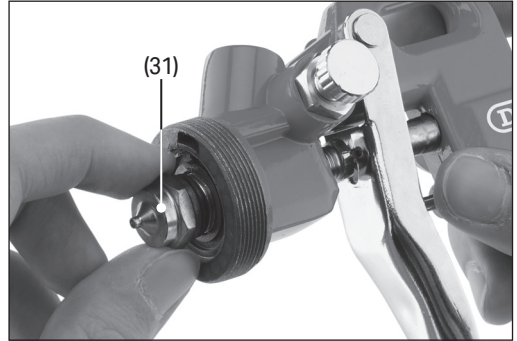

Fig. 19
- b. Remove the nozzle head (31) (Fig. 19).